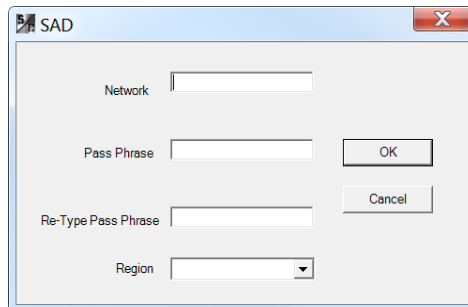

Figure 4. Security Association Database dialog box.
STEP 2. Click the **Create** button to create a Security Association Database (SAD). The SAD dialog box will open. See Figure 4.